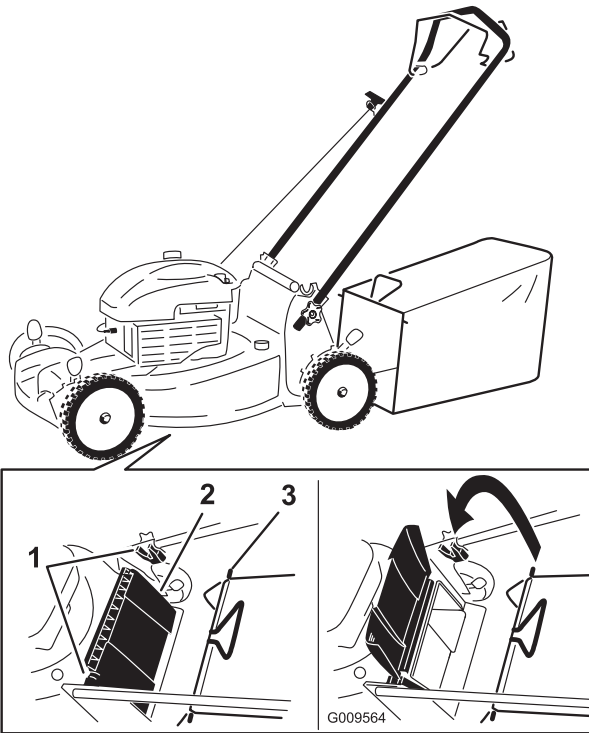

Figure 18
1. Raise and hold up the rear deflector (Figure 18).
2. Install the grass bag, ensuring that the pins on the bag rest in the notches on the handle (Figure 18).